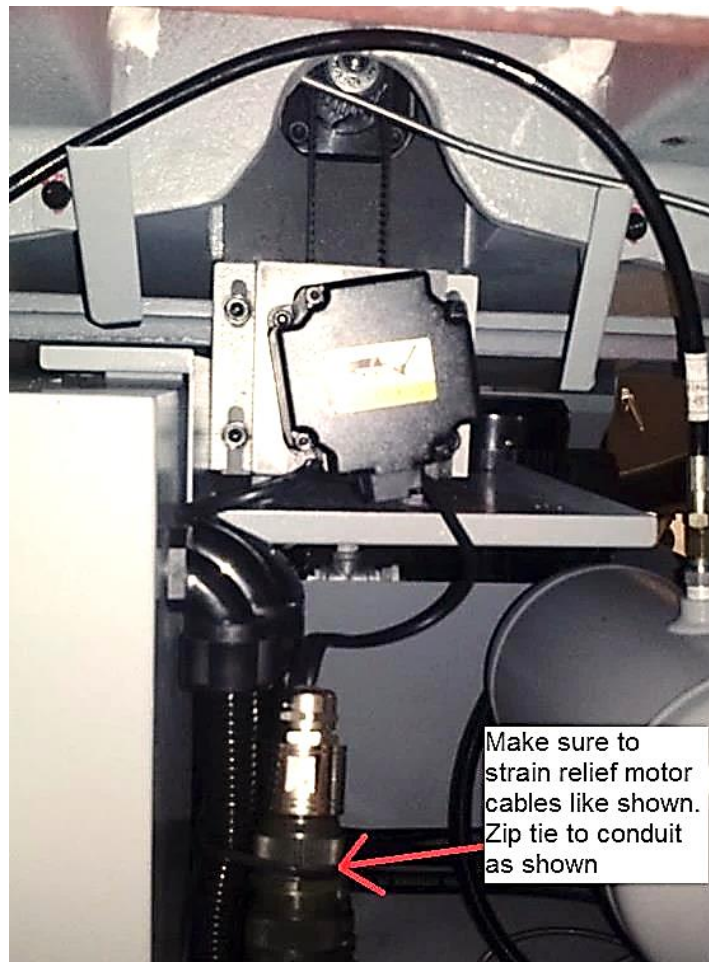

Figure 6.1.2.1 - Disconnect Cables
4. Locate the Y-axis servo motor at the lower rear section of the VMC2 Mill. Disconnect the encoder and power cables from the machine. See figure 6.1.2.1.